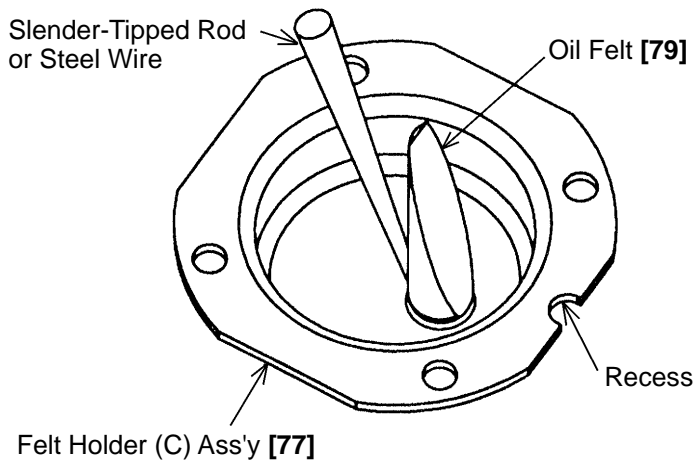

Fig. 12
- 1) As illustrated in Fig. 12, fit the wide end of the Oil Felt [79] into the oiling hole, and push it through with a slender-tipped rod or steel wire.
- 2) When approximately 5 mm (0.2") of the Oil Felt [79] has been pushed through into the oil tank, grasp the tip with pliers or a similar tool, and pull it into the oil tank so that 10 – 11 mm (0.39" – 0.43") remains protruding into the crank case chamber side, as illustrated in Figs. 12 and 13.